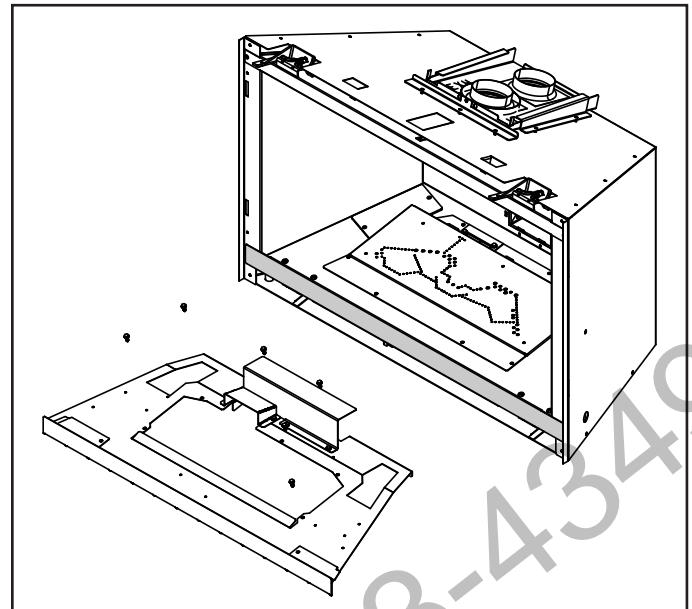

Figure 6 Base Pan Assembly Removal
12. Remove the base pan assembly by removing the screws that secure the base pan assembly to the burner assembly. See Figure 6.
29. Reinstall the base pan assembly (see Figure 6) and optional refractory.